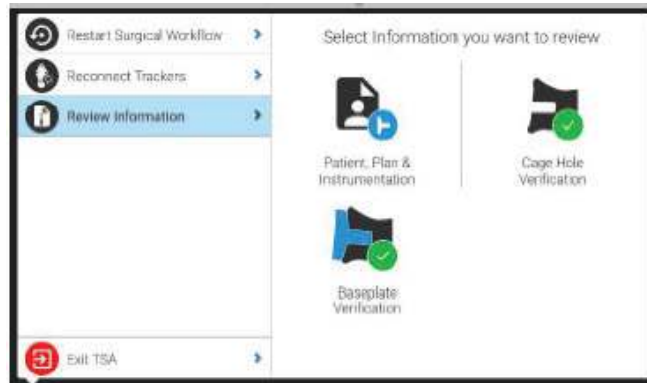

Figure 53
**Note:** You can always review the plan by pressing the menu button and selecting "Review Information" from the pop-up menu on the left (Figure 53).